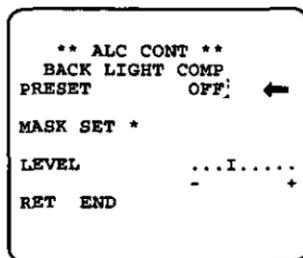

Fig. 31
- Press the Set Switch (9) to proceed to the Backlight compensation menu as shown in Fig. 31.